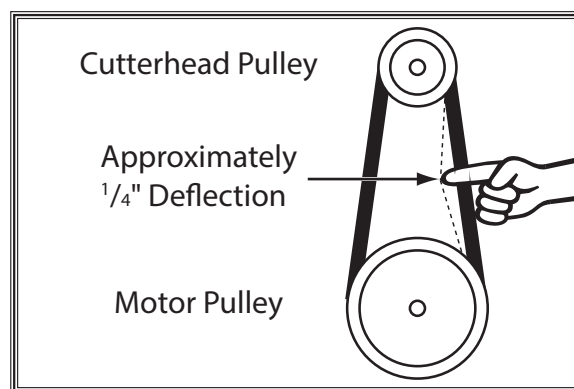

Figure 44. Checking belt deflection.
3. Press down on motor pulley to keep tension on belt, and tighten (3) button head cap screws loosened during **Step 3** of **Replacing Belt**.
4. Press belt with moderate pressure in center to check belt tension. Belt is correctly tensioned when there is approximately $\frac{1}{4}$ " deflection when pushed (see **Figure 44**).
- If there is greater than $\frac{1}{4}$ " deflection when checking belt tension, loosen (3) button head cap screws around motor pulley, then repeat **Steps 3-4** until tension is correct.
5. Install belt cover using (1) button head cap screw removed in **Step 2** of **Replacing Belt**.